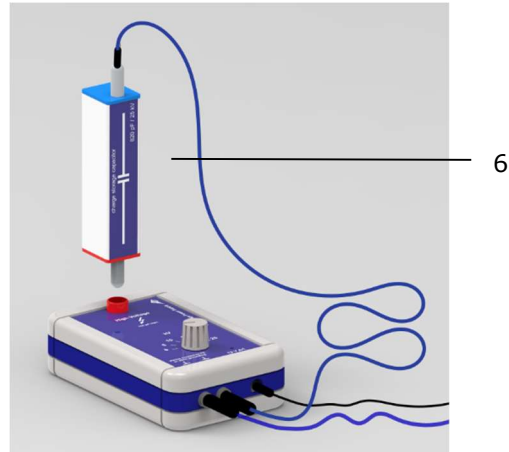

Fig. 1: High voltage power supply with charge storage device
- The ground sockets (5) are internally connected and reference potential for the high voltage. One of the sockets (5) has to be connected to PE or basic ground of the experiment (see 5.3).
- Connect the second ground socket (5) via laboratory cable to the blue side of the charge storage device (see (6) in Fig. 1).
- Connect 12V /AC plug-in power supply to high-voltage power supply via socket (4).
- Select high voltage with switch (2) (e.g. 10 kV).
- Plug the red side of the charge storage device into the high-voltage output (1) for a few seconds.
- Remove the charge storage device and switch off the high-voltage power supply unit with (2).